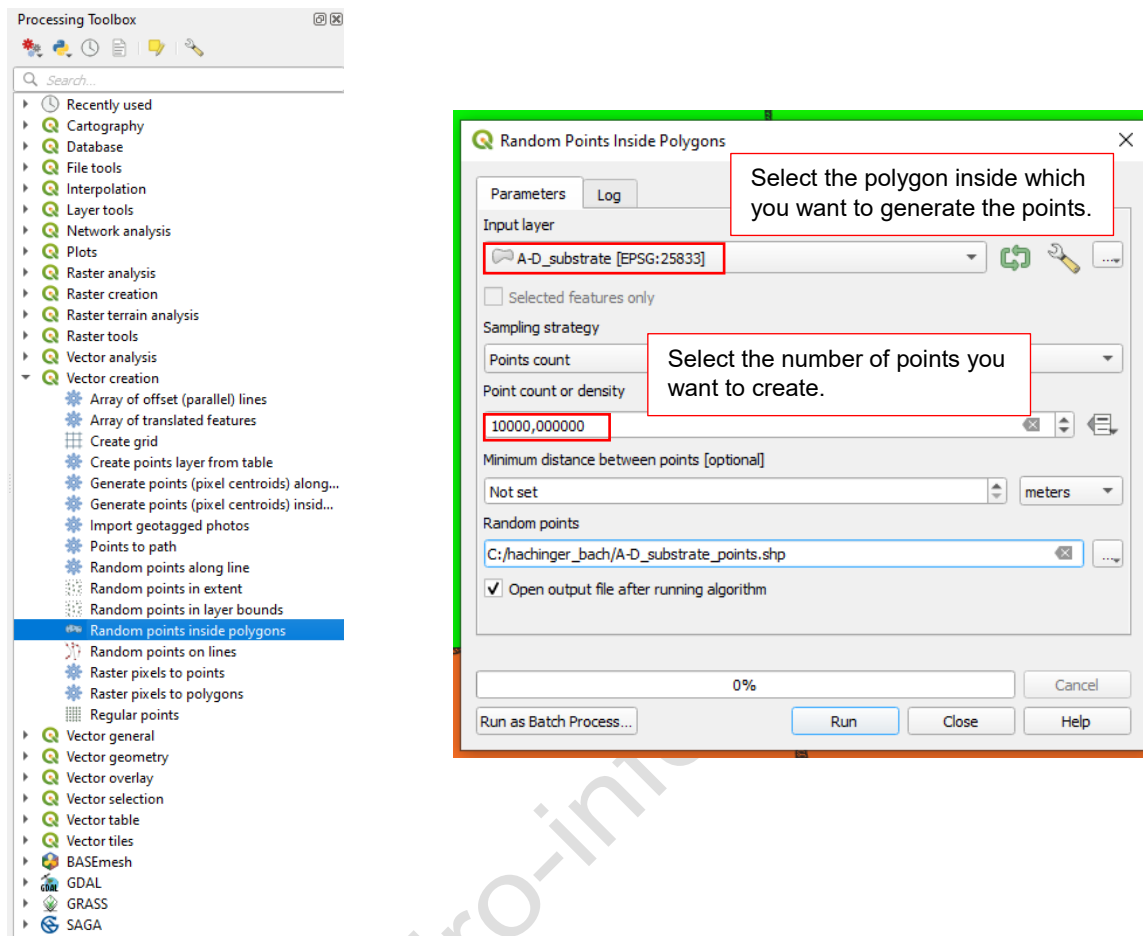

Figure 3: Create Random Points inside Polygons.
2. Open the QGIS Processing Toolbox and select Vector creation > Random points inside polygon (Figure 3).